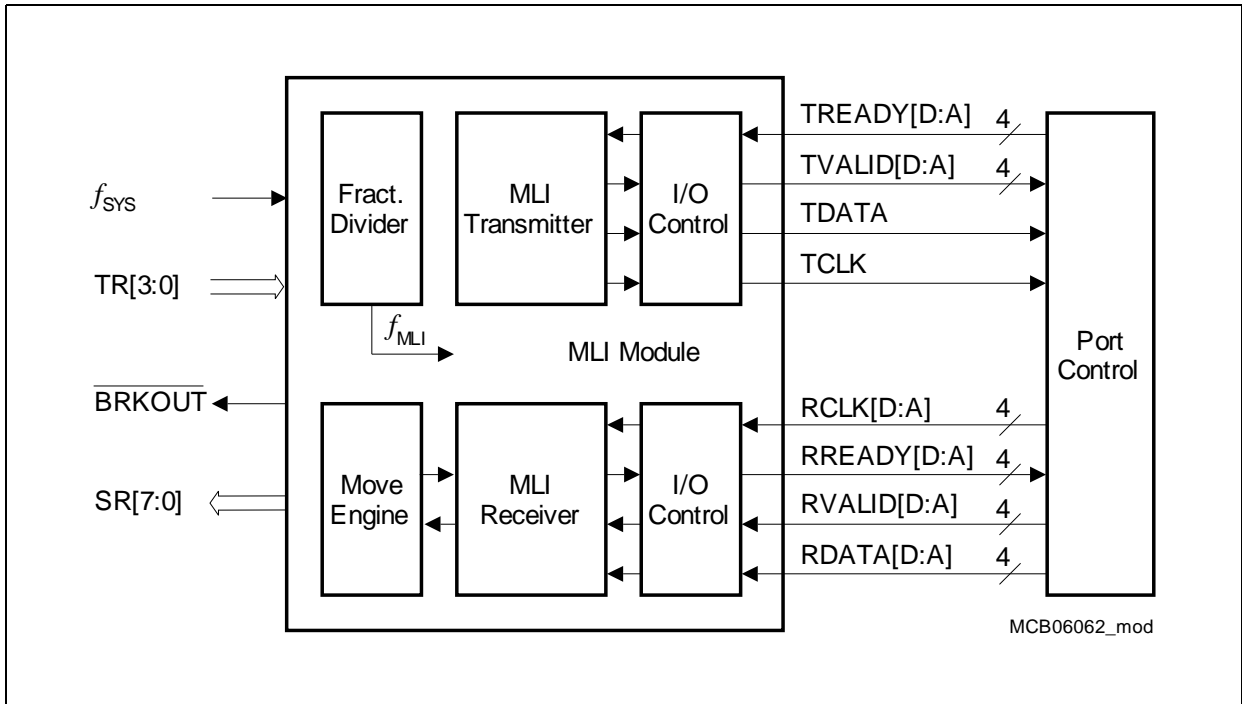

**Figure 10** Typical Micro Link Interface Connection
**Figure 10** shows how two microcontrollers are typically connected together via their MLI interfaces.